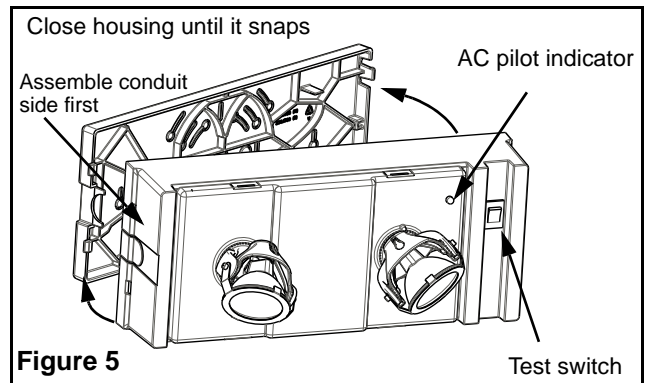

Figure 5
5. Determine the desired position of the test switch (see fig. 5) before mounting the backplate.
10. Slide the housing over the tabs; conduit side on housing over conduit side on backplate (see fig. 5). Assemble the conduit side first, then align the tabs on the other side of the housing and of the backplate. Press together until it snaps.
13. Energize AC. The AC pilot indicator, located under the cover, will illuminate (see fig. 5).
Press test switch (see fig. 5). The emergency lamps will illuminate. When switch is released, lamps will go off. Allow unit to charge for 24 hours before initial testing.